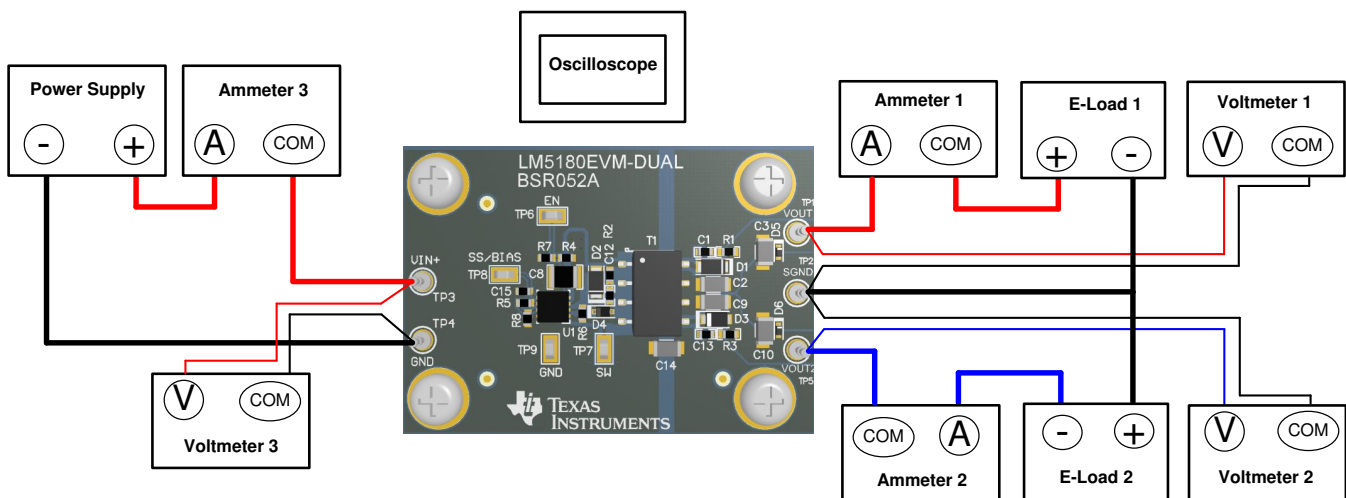

Figure 3. EVM Test Setup
Referencing the EVM connections described in Table 3, the recommended test setup to evaluate the LM5180EVM-DUAL is shown in Figure 3. Working at an ESD-protected workstation, make sure that any wrist straps, boot straps, or mats are connected and referencing the user to earth ground before power is applied to the EVM.
- Prior to connecting the DC input source, set the current limit of the input supply to 100 mA maximum. Ensure the input source is initially set to 0 V and connected to the VIN+ and VIN– connection points as shown in Figure 3. An additional input bulk capacitor is recommended to provide damping if long input lines are used.
- Connect electronic loads to VOUT1, VOUT2, and SGND connections as shown in Figure 3. Set the load to constant-resistance mode or constant-current mode at 0 A before applying input voltage.